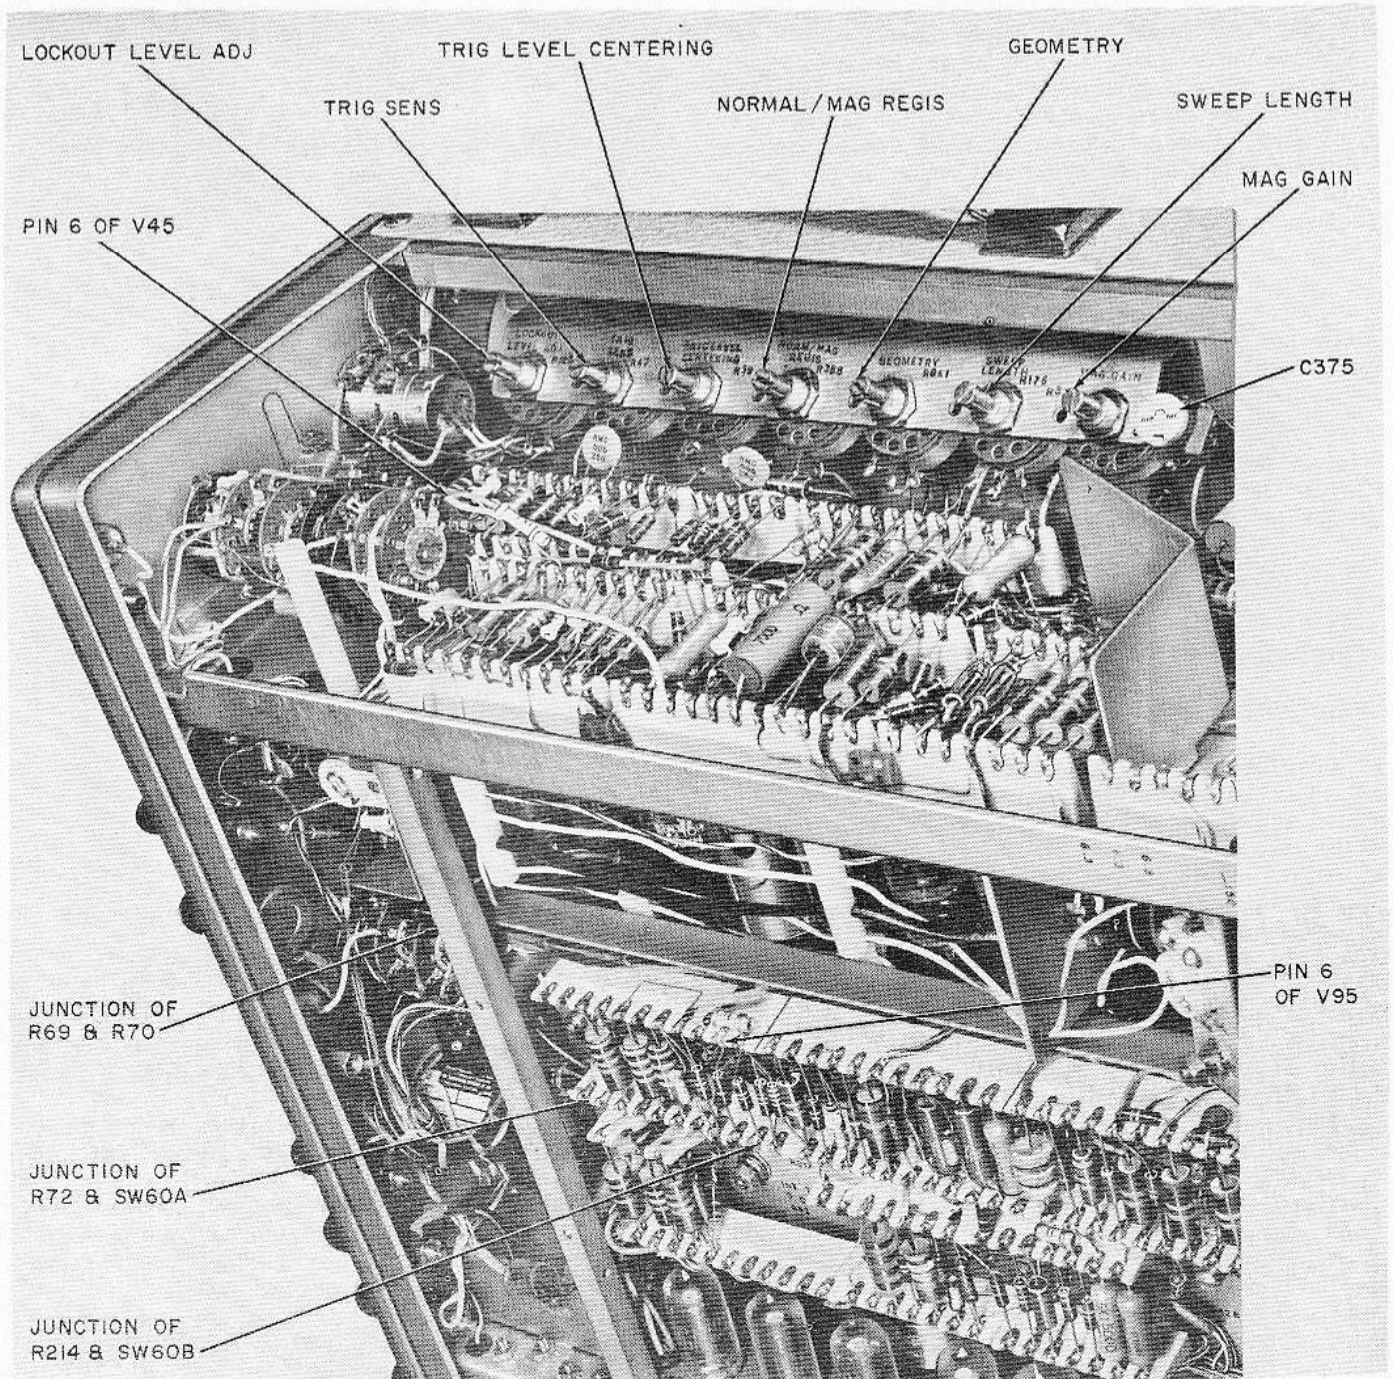

Figure 7-4. Calibration Points
d. Adjust Geometry potentiometer (see figure 7-4) for straight vertical lines, running parallel to the right and left edges of the graticule.
- c. Set Trig. Sens. potentiometer (see figure 7-4) to mid-position.
f. Using 10X attenuator probe connected to shop standard oscilloscope, connect probe tip to pin 6 of tube V45 (see figure 7-4) on oscilloscope being calibrated.
g. Adjust the Trig. Level Centering potentiometer (see figure 7-4) to the exact center of the area which provides a square wave of approximately 1.5 cm on the shop standard oscilloscope.
h. Change AMPLITUDE CALIBRATOR to .2, and adjust the Trig. Sens potentiometer (see figure 7-4) clockwise until square wave is again visible on shop standard. Carefully adjust Trig. Sens potentiometer to the position where square wave is jitter-free.
b. Connect the Simpson 260 multimeter to the junction of resistors R69 and R70 (see figure 7-4), and ground.
b. Position the sweep trace to the center of the graticule, and connect the Simpson 260 multimeter between ground and the junction of resistor R72 and switch SW60A (see figure 7-4).
c. Adjust the Mag. Gain potentiometer (see figure 7-4) to display a one millisecond marker every five cm, and two 100 microsecond markers every cm.
c. Set 5X MAGNIFIER control to OFF position and adjust the Norm/Mag. Regis potentiometer (see figure 7-4) so the first time mark is aligned with the center graticule mark again.